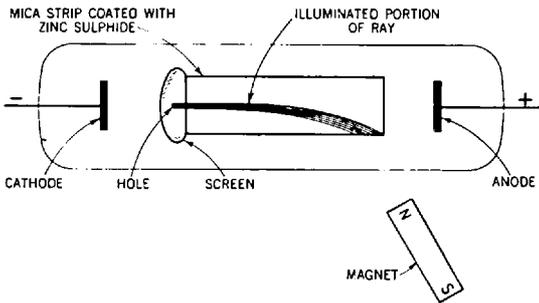

Fig. 43-3. How the electron stream is deflected by a magnet.
**Deflection of Cathode Rays by a Charged Plate.** Thomson discovered another curious thing about these cathode rays. He held a magnet near the glass tube. The path of the rays, as shown on the mica strip, was deflected by the magnet. The stream of electrons was deflected by the magnet, and the stronger the magnet, the more the electrons were deflected (Fig. 43-3). This was be-
You will recall that the electron beam may also be deflected by a magnetic field (See Figure 43-3). Accordingly, some cathode-ray tubes do not have any deflecting plates. Instead, electromagnets are mounted on the neck of the tube. Since the magnetic field can act through the glass, varying the current flowing through these electromagnets causes corresponding variations in their magnetic fields. As a result, the electron beam is deflected. This system is called